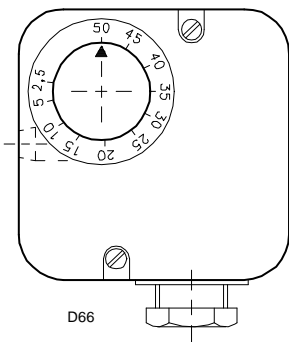

Fig. 22
- Adjust the maximum gas pressure switch to the end of the scale (Fig. 22).